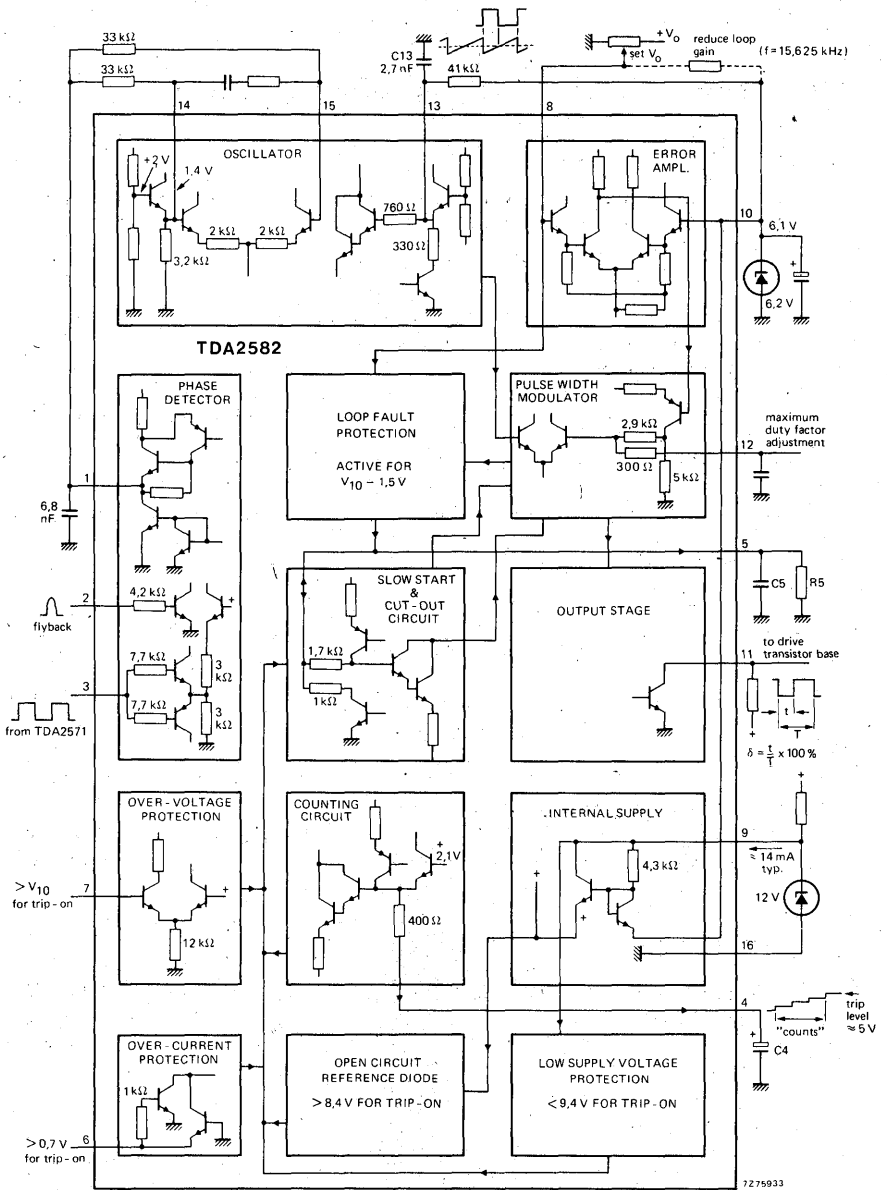

Fig. 1 Block diagram.
* For component values see Fig. 1.